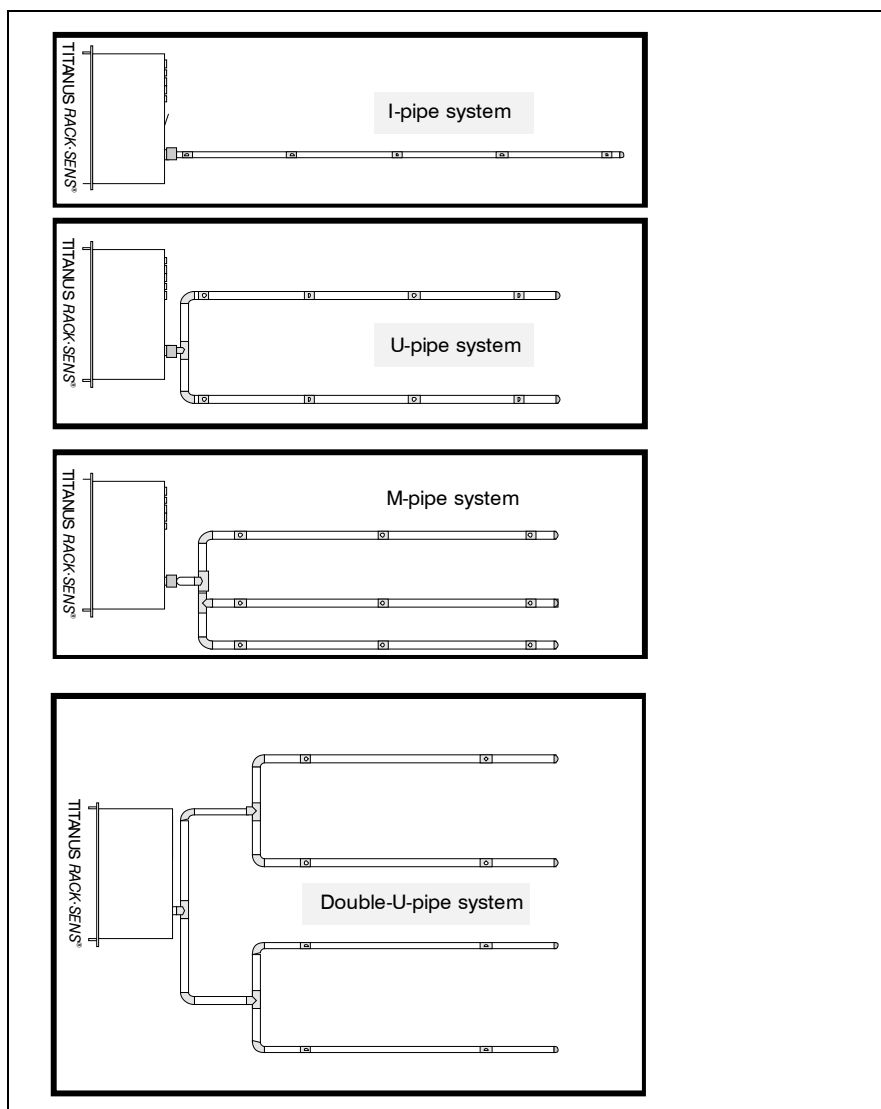

Fig. 4.12: Pipe configurations
**Pipe designs** 4 types of pipe layouts can be used depending on the cabinet geometry (see Fig. 4.12).